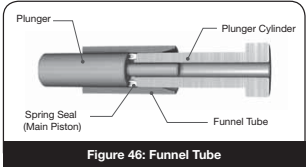

Figure 46: Funnel Tube
- Stop when Spring Seal (Adjuster Top) is about half way inside the Funnel Tube as shown in Figure 46.
- iv. Insert Funnel Tube, chamfer side first, over the Plunger and Spring Seal (Adjuster Top). Stop when Spring Seal (Adjuster Top) is about half way inside the Funnel Tube as shown in Figure 46.